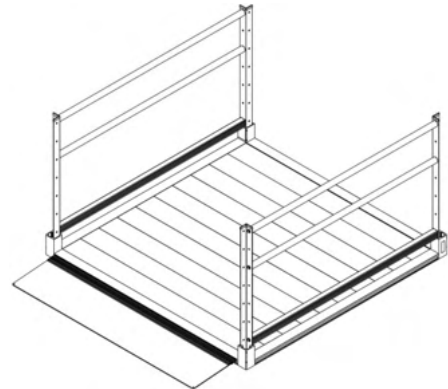

FIG. 2.12
- 2.6.4. Low profile platforms can be elevated when used with support tubes and feet or set directly on the ground and used as a landing pad (FIG. 2.12). When used as a landing pad, it may be used with or without handrails and will require a low profile ground transition.